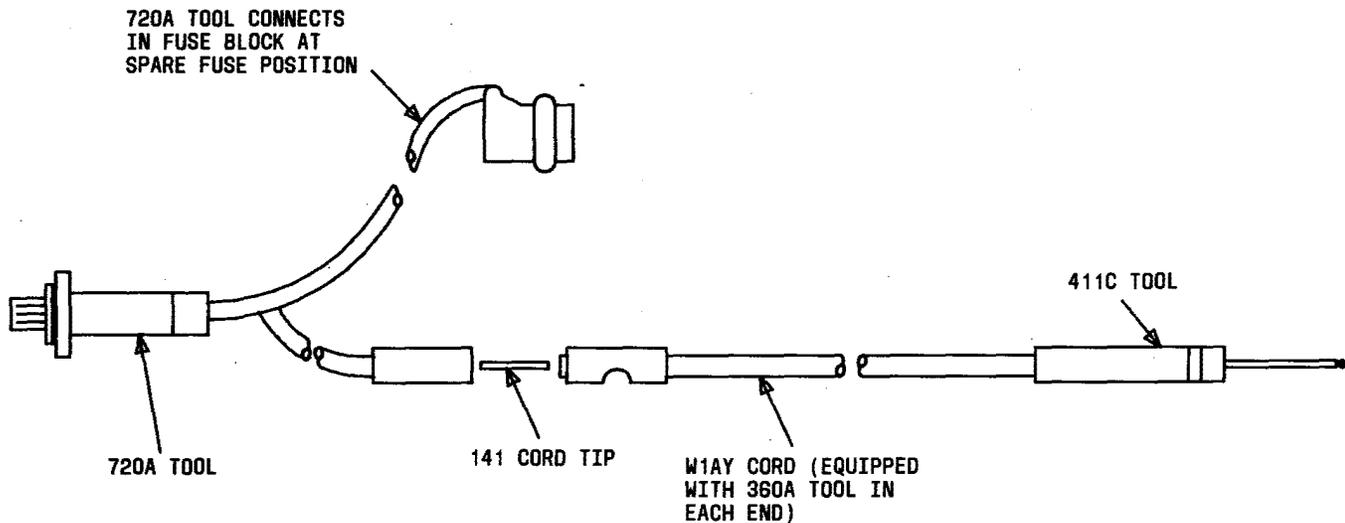

Fig. 11—Fuse Alarm Test Cord—Assembly
(1) Prepare a fuse alarm test cord per Fig. 11.